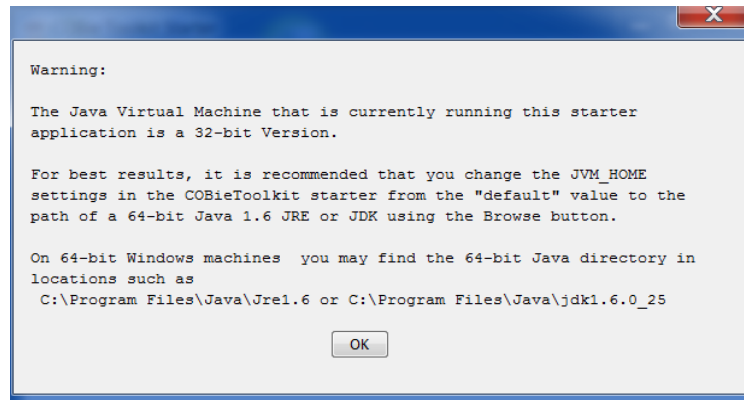

Figure 7: Java version startup warning
1. Review the Warning illustrated in Figure 7